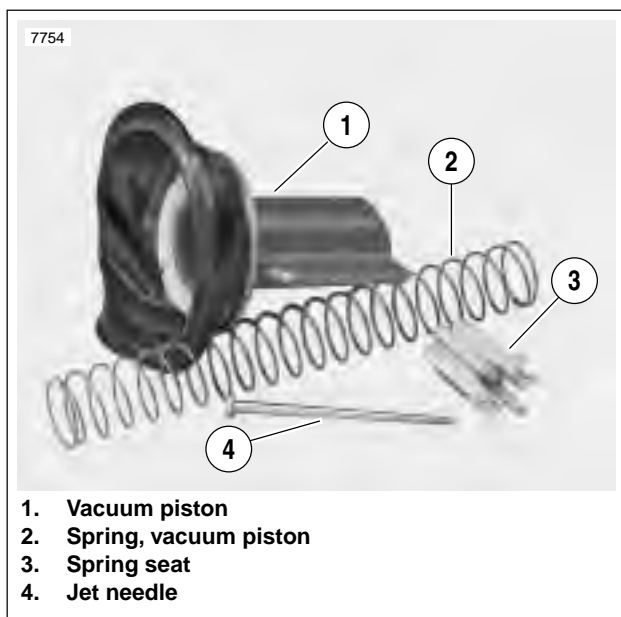

Figure 4-11. Carburetor-Top End Components
3. Remove vacuum piston spring. Carefully raise diaphragm to remove vacuum piston assembly. Remove spring seat and jet needle from vacuum piston bore. See Figure 4-11.
- See Figure 4-11. Thoroughly clean all loose parts (except diaphragm) with carburetor cleaner. Blow dry using low pressure compressed air.